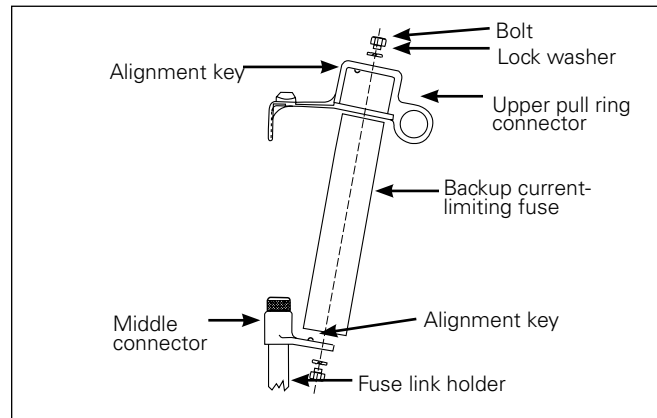

Figure 8. Refusing the backup current-limiting fuse
2. **Unbolt the upper pull ring connector from the backup current-limiting fuse and replace with a new backup current-limiting fuse.** Bolt the reused upper pull ring connector to the new backup current-limiting fuse noting proper engagement of the alignment key. See Figure 8.
3. **Bolt the backup current-limiting fuse to the middle connector noting proper engagement of the alignment key as shown in Figure 8.**